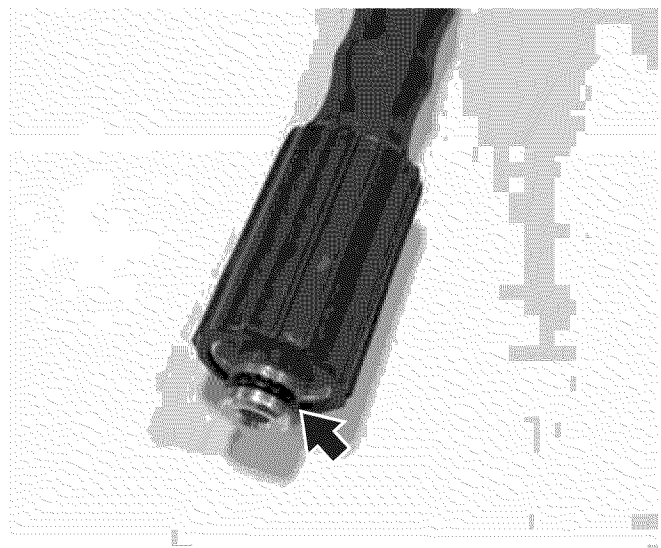

Figure 24 – High-Pressure Hose O-Rings
11. Inspect the O-rings on both sides of the high-pressure hose. Moisten the O-rings with water (see Figure 24).